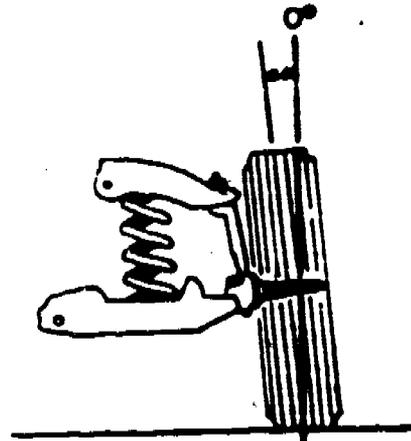

Figure 2
- 2. Figure 2 shows _____ b. no camber.